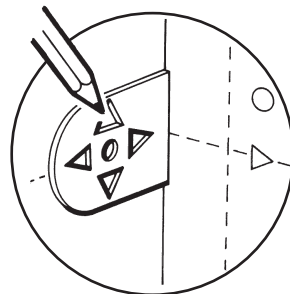

Fig. 42
9. Holding the template firmly, mark the vertical centre line for the flue assembly by marking the point at the outer corners of the upper and lower cut outs (Fig. 42).